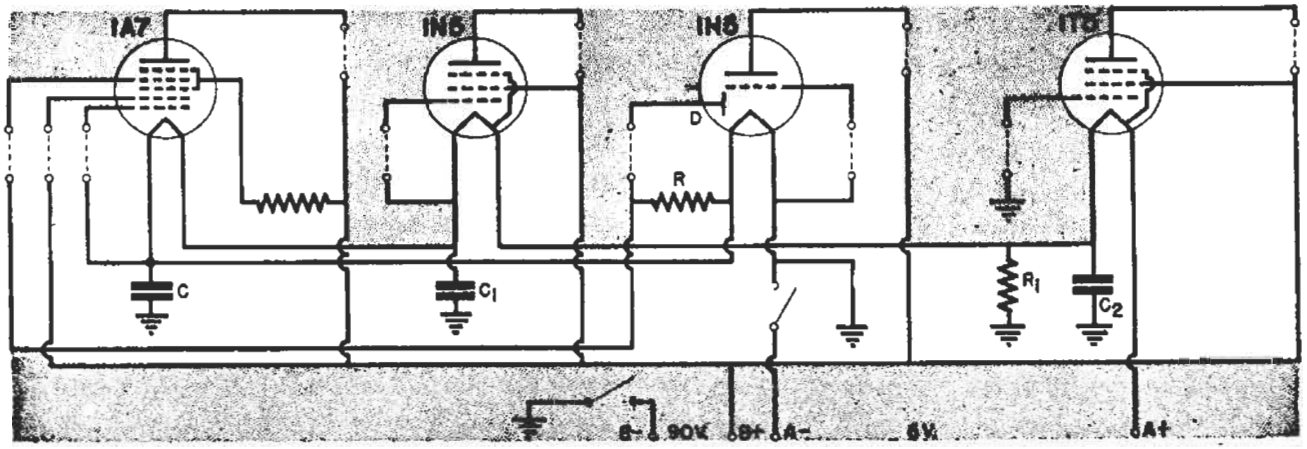
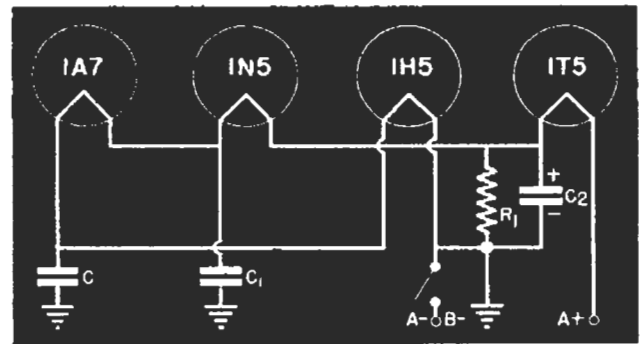
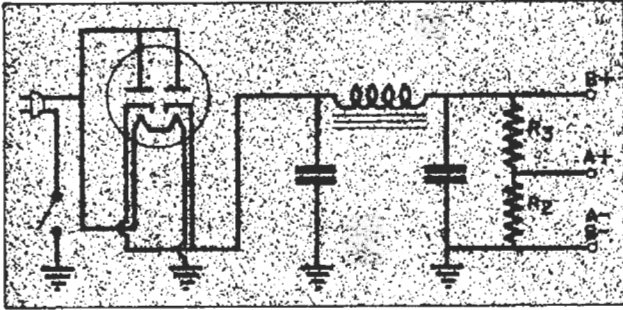

FIG. 28. Supply circuits in a typical modern battery portable receiver.
FIG. 29. The filament circuit of Fig. 28 shown in simplified form.
FIG. 30. This universal power supply can be used in battery sets to form a battery—a. c.-d. c. receiver.
**A Series Filament Circuit.** The circuit shown in Fig. 28 appears complicated because the tubes are not arranged in the same order as their filament connections. The circuit may be more easily understood by referring to Fig. 29, which shows just the filament circuit and its associated parts.
Therefore, we provide condenser paths for the signal currents between the tube filaments and  $B-$ . The size of each condenser must be chosen so that the impedance it offers to the signal current it is supposed to carry will be far less than the resistance offered by any path through the filaments. Since  $B-$  is grounded to the chassis, we ground one end of each condenser to the chassis and connect the other end to the filament of the tube with which it is to be used. Thus, the signal current of tube  $1A7$  passes through condenser  $C$ , that of  $1N5$  through  $C_1$ , and that of  $1T5$  through  $C_2$ . Since  $1T5$  is a power output tube and carries an audio frequency plate current, we must use a high-capacity electrolytic condenser for  $C_2$ . It should be connected with the polarity shown. No condenser path is provided for tube  $1H5$ , because its signal current flows directly to it without having to go through any other tube first. ► Referring back to Fig. 28, you see that the  $1T5$  is biased by grounding its control grid return, thus connecting it to  $A-$  (which is 4.5 volts negative with respect to the  $1T5$  filament). No external bias source is used for the  $1H5$  and  $1N5$  tubes. The  $1A7$  control grid (fourth grid from the filament) is connected through resistor  $R$  to the filament of the  $1H5$ , which connects to the filament of the  $1A7$ .
In the receiver shown in Fig. 28, we need 6 volts for the filaments and 90 volts as the  $B$  supply. The latter can easily be obtained from a power line by using the familiar a.c.-d.c. half-wave rectifier supply shown in Fig. 30. Between the  $B+$  and  $B-$  terminals there will be approximately 90 volts, so these terminals may be connected directly to the  $B+$  and  $B-$  receiver leads.
The rectifier output is filtered by its own filter and also by the filament by-pass condenser  $C_2$  in Fig. 29. This
In receivers which have a bleeder resistor across the A supply (like  $R_2$  in Fig. 30), doing so will usually cause no trouble. But suppose you pull